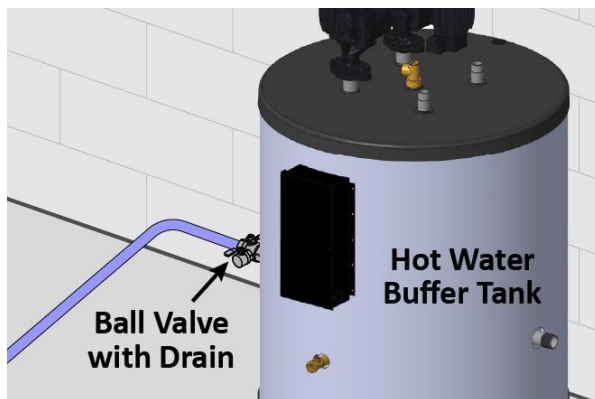

Figure 2: Purge air from the system
- Be sure to properly remove air from the system before operating. Drawing water in the opposite direction with a ball valve and drain may help. (See Figure 2.)